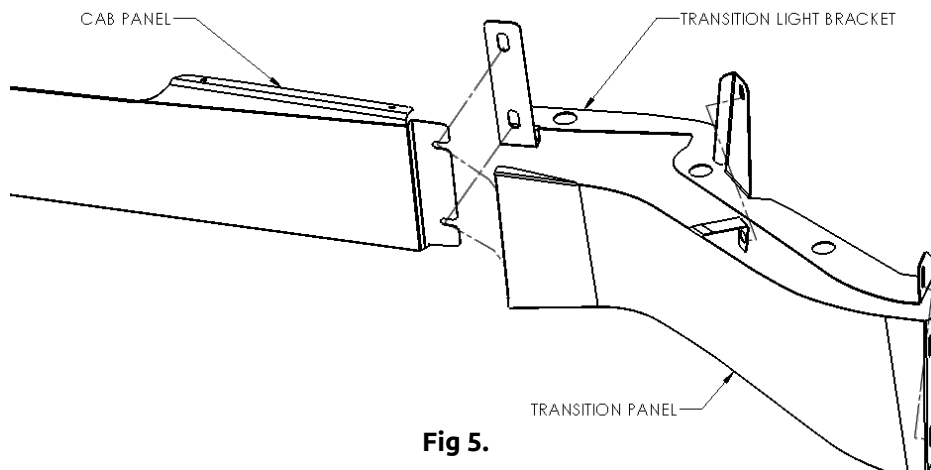

Fig 5.
- Insert (3) 10-32 bolts into drilled holes, and secure with (3) flat washer and (3) locknuts
11. Attach Transition Panel and Transition Light Bracket (see figure 5)